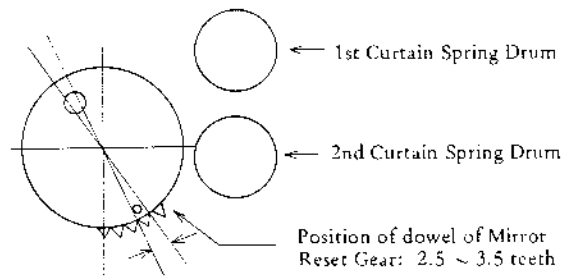

Fig. 17
- 3) Mount the Gear at the position 2.5 ~ 3.5 teeth as shown in Fig. 17.